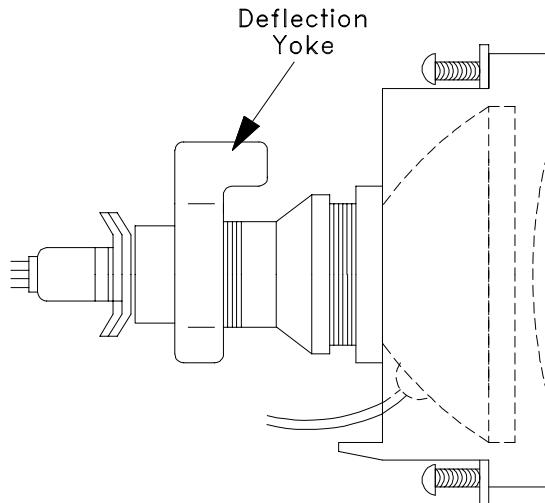

Figure 5-7
8. Remove the Deflection Yoke from the neck of the CRT. [Figure 5-7]
2. Install the Deflection Yoke on the CRT neck. [Figure 5-7]